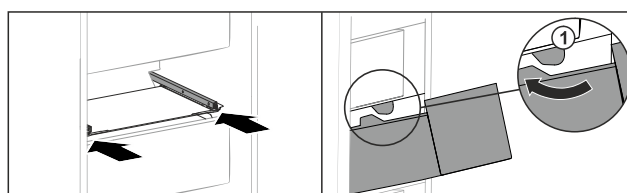

Fig. 94
- ▶ Guide drawer around the stoppers Fig. 94 (1).